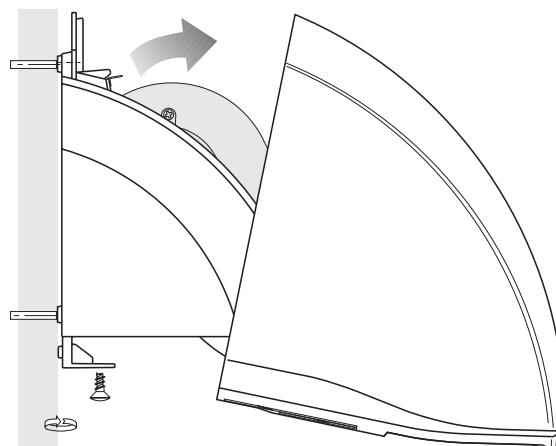

FIG. 4
5. Remove one screw on the locking bolt (FIG. 4).
6. Pull down locking bolt. Remove housing (FIG. 4).